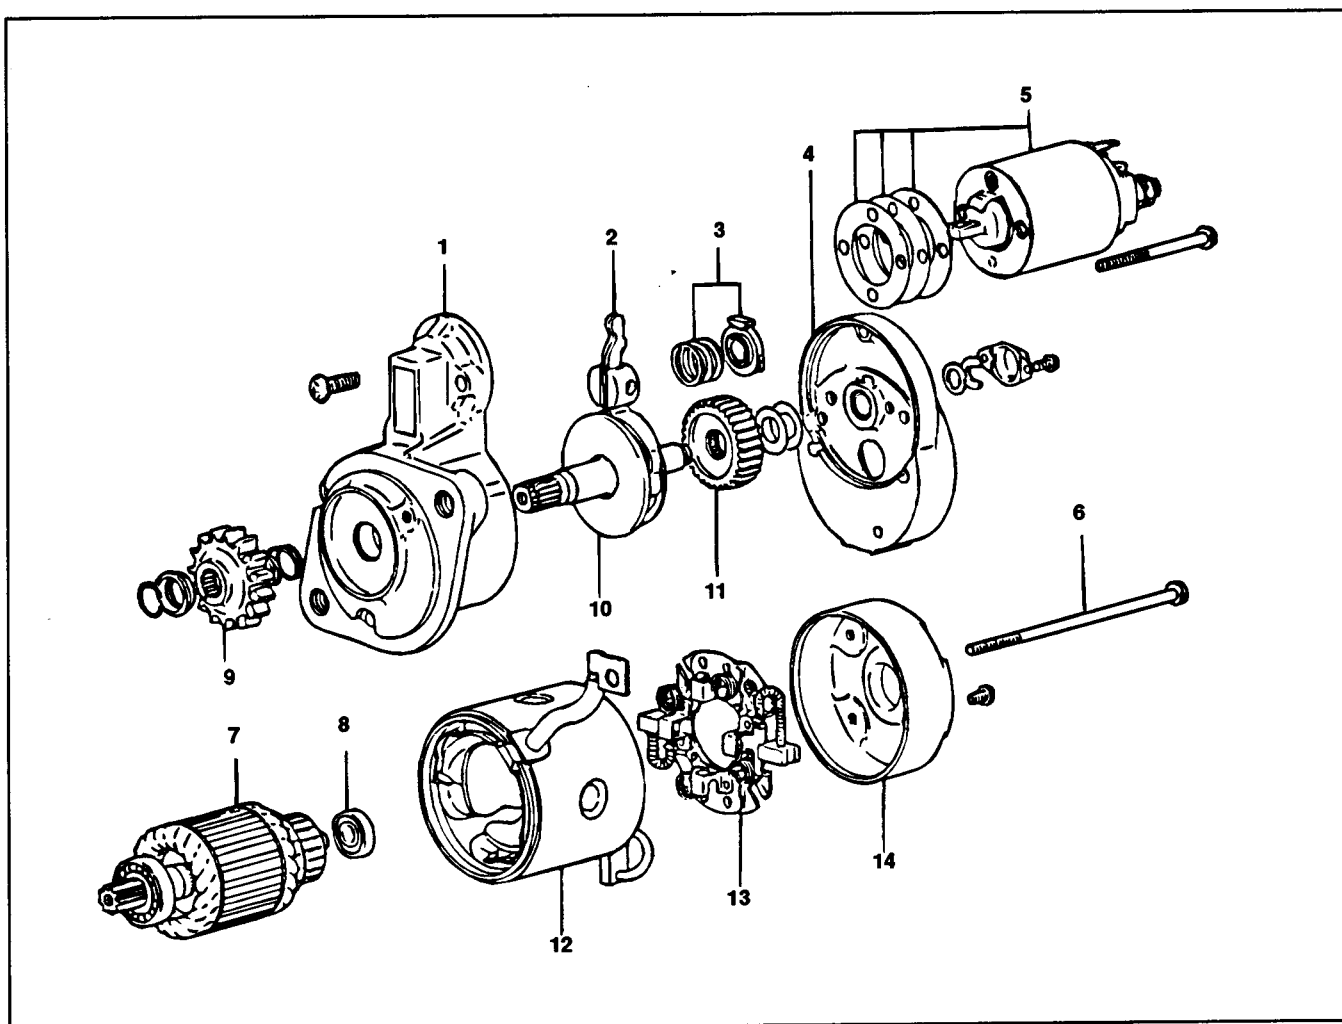

Figure 44
3. Loosen two screws securing the magnetic switch (Fig. 44). Remove the magnetic switch.